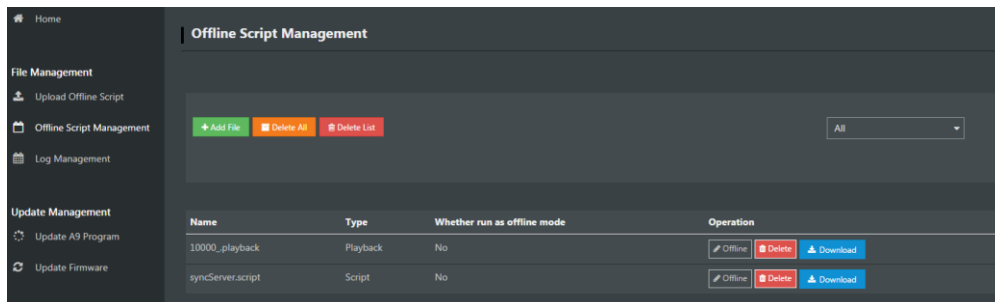

Figure 6.52 Script status
3. Select the uploaded script (syncServer.script) on the **Offline Script Management** page and click **Offline** to make the script in the offline status, as shown in Figure 6.52.